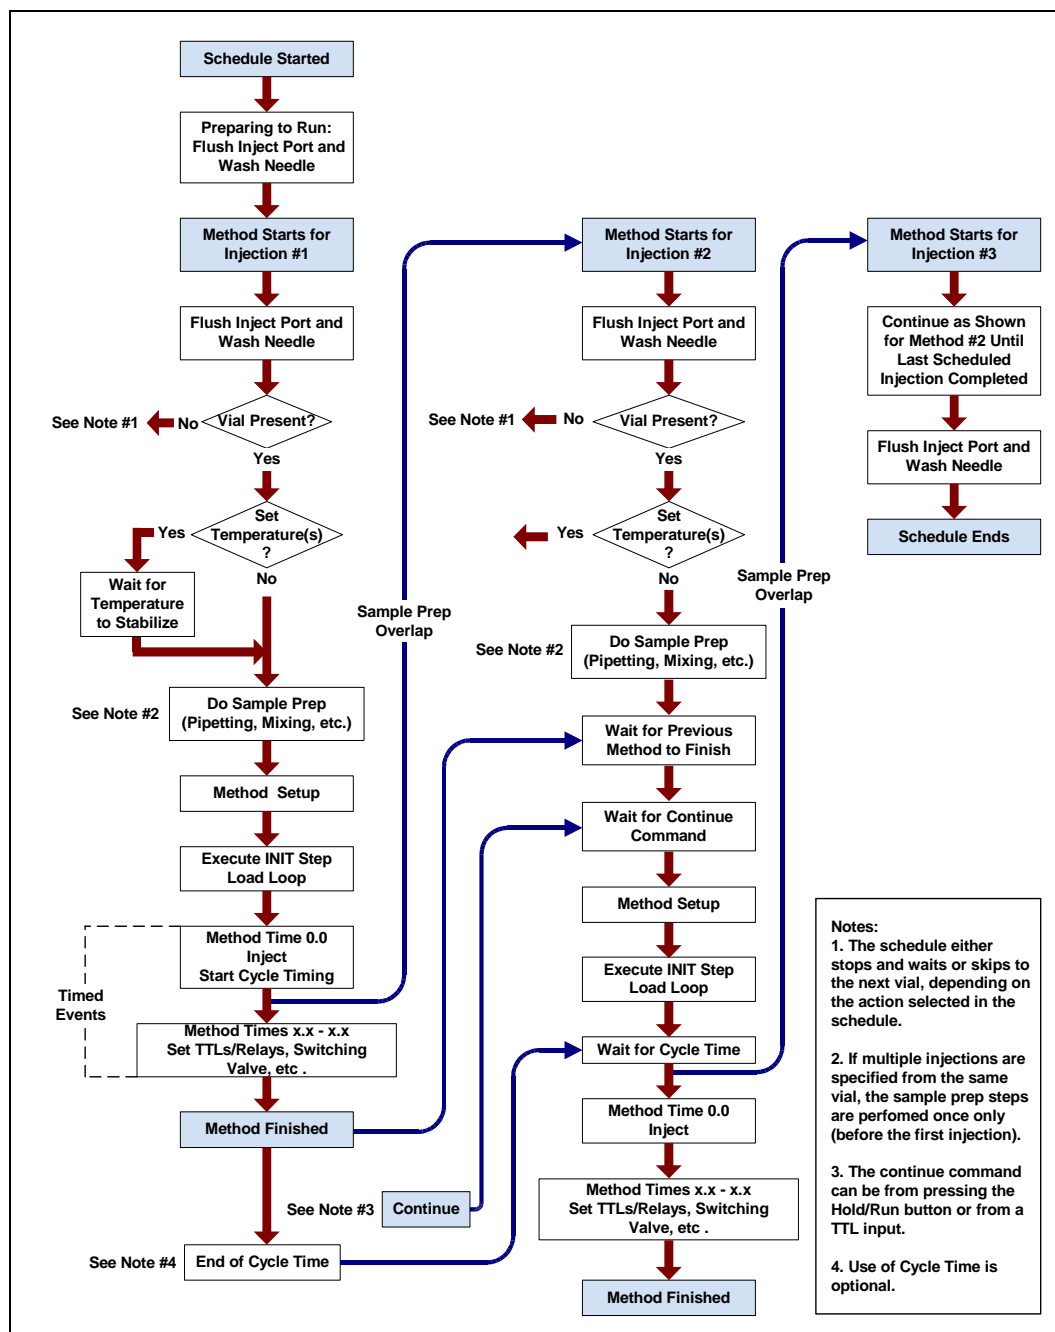

Figure 2-17. Order of Events During a Schedule Run (Wait Enabled)
- Figure 2-17 shows the order of events during a schedule when the wait operation is enabled.